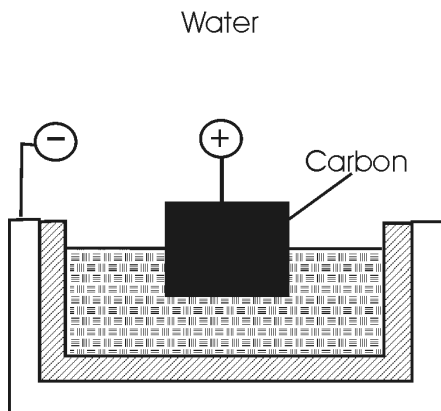

Figure 4
9. Figure 4 shows a cell used to smelt aluminum. Label the figure showing anode, cathode and alumina.